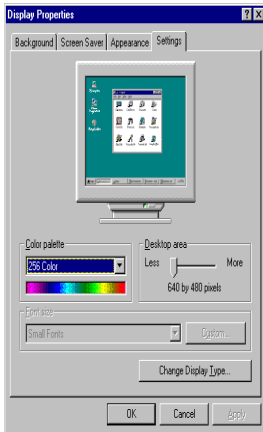

Figure 3-2.
3. SELECT the display" icon and then SELECT the "settings" page (refer to Figure 3-2).